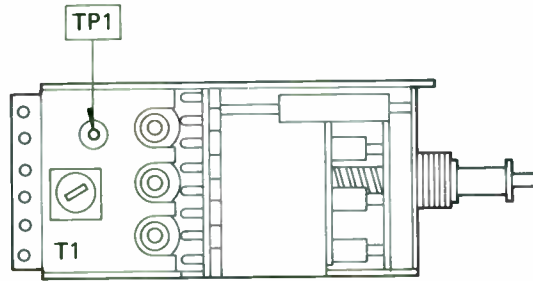

Figure 14
6. Alignment and test point location details: See Figures 14 and 15.